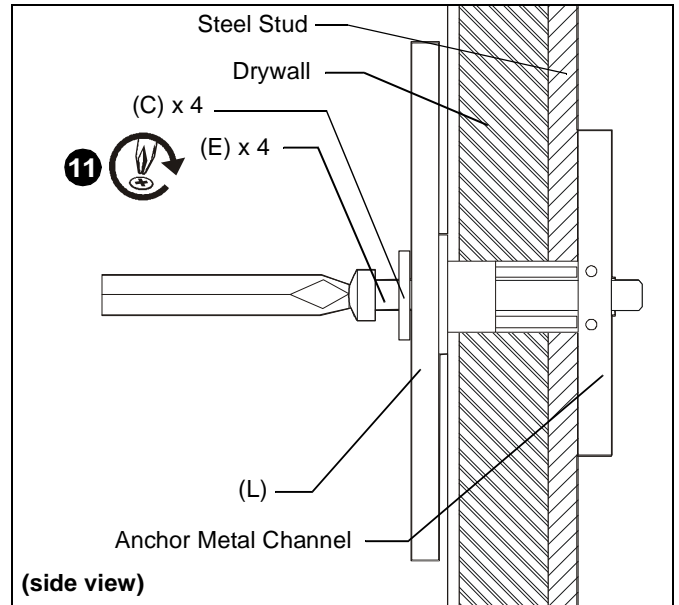

Figure 9
10. Place wall bracket (L) over anchors and align mounting holes in bracket with holes in anchors. (See Figure 9)
11. Insert 1/4-20 x 1-3/4" Phillips pan head screw (E) through 1/4" washer (C), corresponding mounting hole on wall bracket and into anchor (D) and tighten until flush against wall bracket. DO NOT overtighten! (See Figure 9)